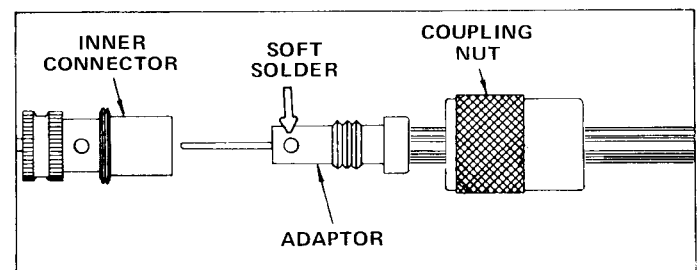

FIGURE 2
STEP 2. Slide UHF coupling nut onto cable with knurled end toward cable end. Add adaptor until flush with end of outer conductor. See Figure 2. Soft solder adaptor to outer conductor. Use soldering iron or gun and rosin core solder. Avoid excessive heat. Keep inner conductor centered. Apply heat to adaptor to draw solder into hole. Wipe away excess solder and cool connection with damp cloth. Clean connection with garnet cloth. Do not use emery cloth or steel wool.